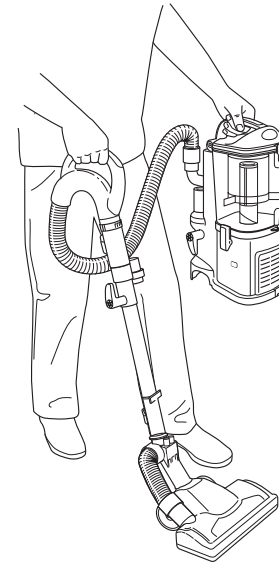

Fig. 16
- 2 Attach the floor nozzle onto the end of the wand. (Fig. 16)